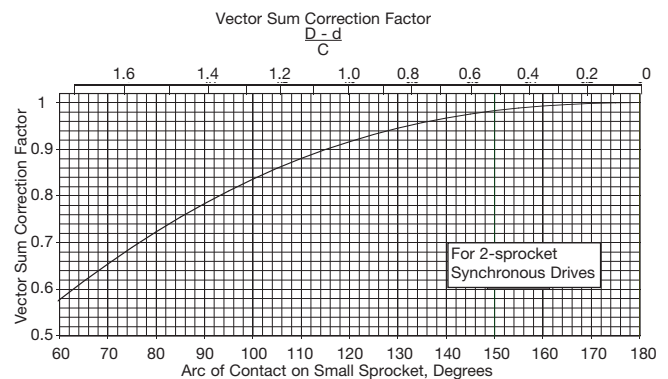

Figure 9
2. Using the value of  $\frac{D-d}{C}$  for the drive, find the vector sum correction factor using Fig. 9, where: